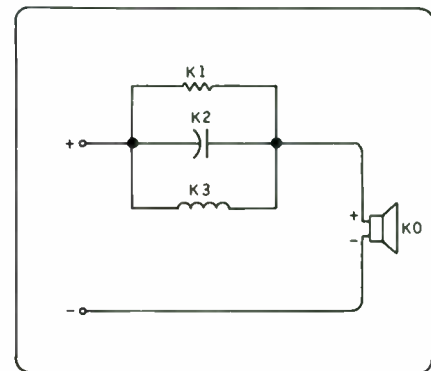

FIGURE 3: Crossover #1: notch filter.
Crossover #1 (Fig. 3) is a notch filter. Here I used an overdamped notch at 6.5kHz to approximate a first-order roll-off at 1.6kHz. The driver impedance and the resistor, capacitor, and inductor values are entered in prompts 13-16.
6. Use a notch filter (Fig. 3) in place of a second-order crossover to increase the damping ratio (reduce the resonant peak) of a woofer's high-frequency rolloff (see "Crossover Alternative," in Part I). In this case, let f_c and d_w be the corner frequency and damping ratio of your woofer's high-frequency rolloff, and let dd be the desired damping ratio (1.0 for a Linkwitz-Riley crossover and 0.7 for a Butterworth [constant-power
in this case reference 6, Part I] crossover). The values of resistor (K1), inductor (K3), and capacitor (K2) in Fig. 3 are: